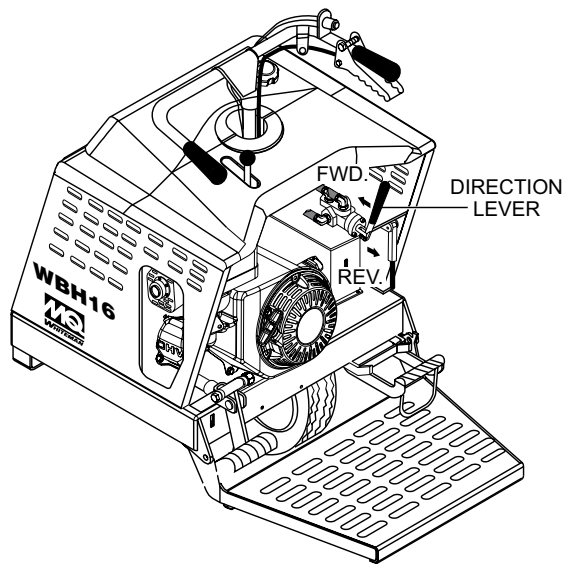

Figure 21. Direction Lever
4. Place the power buggy's direction lever (Figure 21) in the forward direction.
1. With the engine running and parking brake released, place the direction lever (Figure 21) in the forward direction.